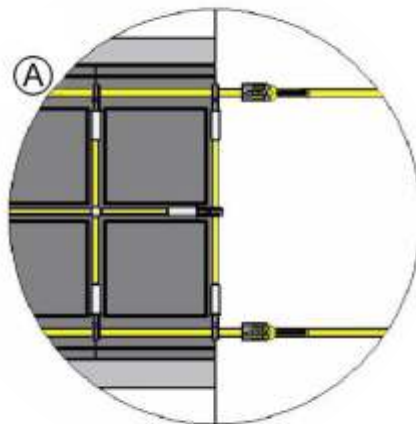

Figure 10
Shown below is the detail involved with adjusting the net tension to ensure the net rests centered in the grooves of the net pad when it is in the down position as shown in Figure 10 .
Move the net pad (A) right or left or adjust turnbuckles to center the net in the grooves as shown in Figure 10 . The net is shown without the net encasement option.